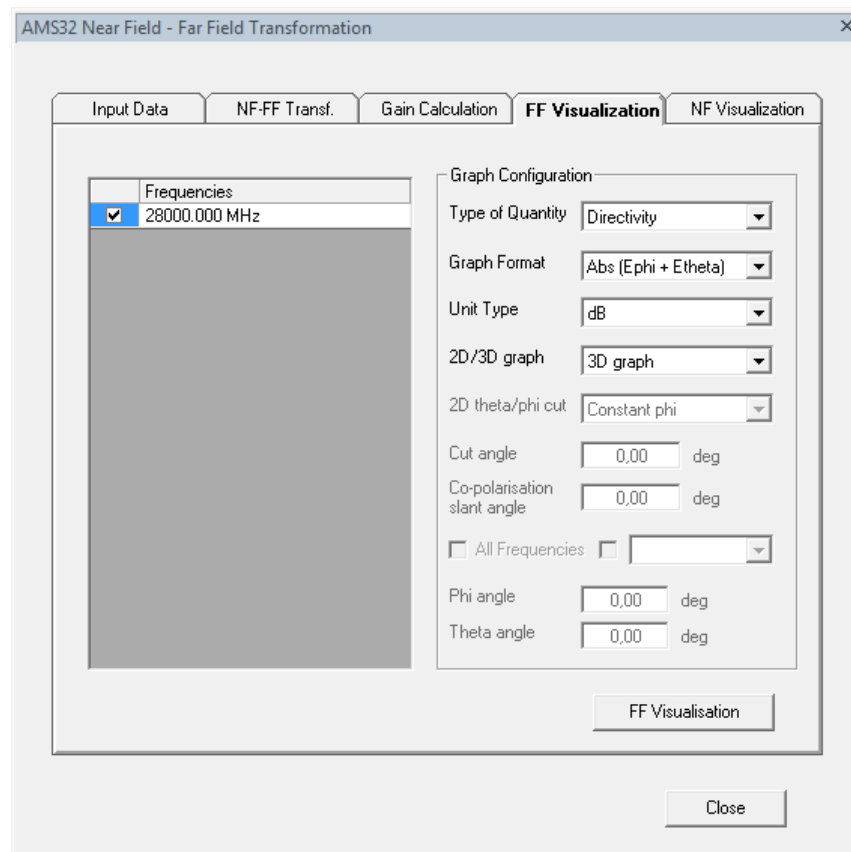

Figure 6-3: AMS32 far field visualization after NF-FF transformation
5. Set the "Graph Configuration" parameters as shown in Figure Figure 6-3. Besides 3D